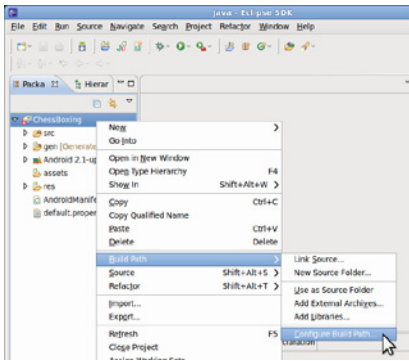
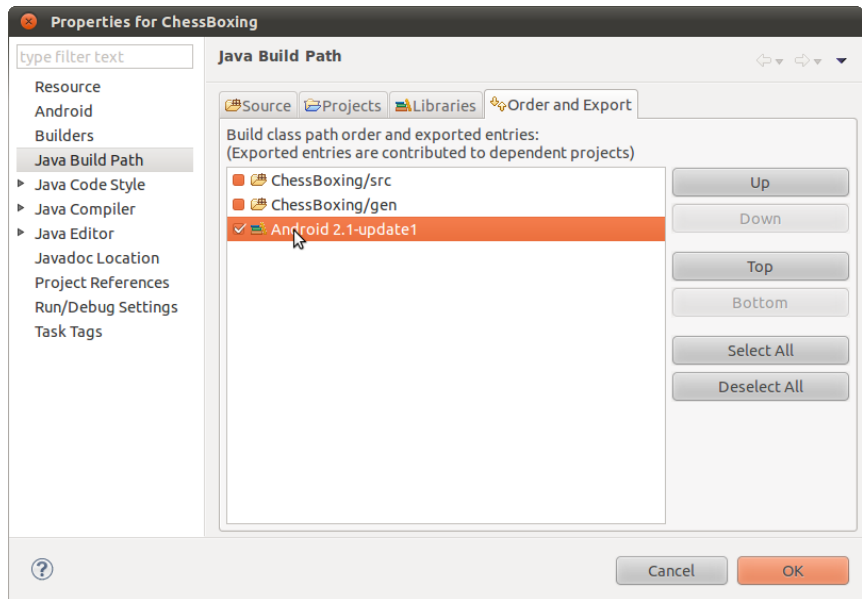

Figure 6-14. Configuring the Build Path for the Android version you're using to compile the project
Figure 6-15. Choosing the Android version you prefer
6. Under Min SDK Version, pick the same level (7) that you picked for the build target.
7. Right-click the project (as shown in Figure 6-14), and choose Build →Configure Build Path. Go to the tab labeled "Order and Export" and select the Android library (for example, "Android 2.1-update1," as shown in Figure 6-15). Click OK.